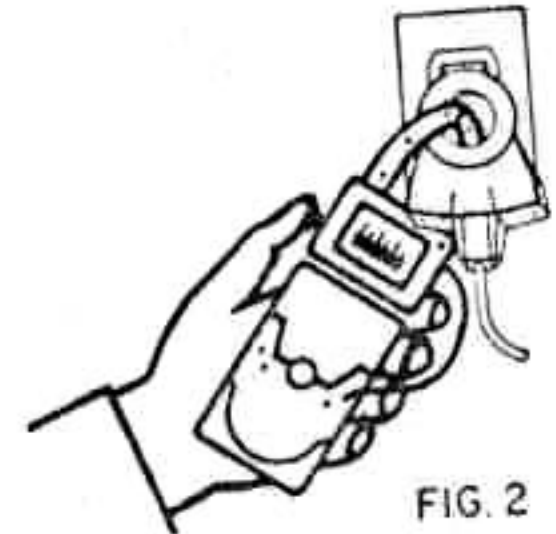

FIG. 2
(2) With Model 10C adapter and Model 310C V-O-M connected and set properly for measuring AC current, snap Model 10C through the hole in Model 101 and take readings, starting at the highest current range. (Fig. 2). Reset range switch on Model 10C for greatest pointer deflection.